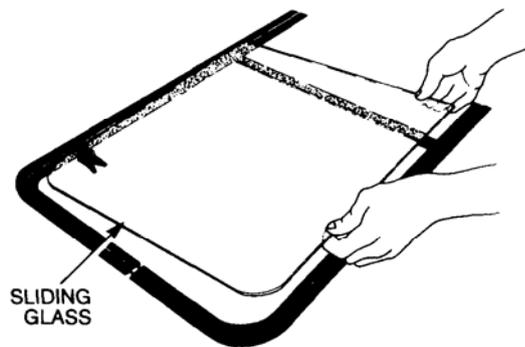

**Figure 36 Window Frame Halves Removal**
- Remove the recessed screws securing the upper and lower halves of the window frame together (refer Figure 36).
- ff. Tighten the screws securely (refer Figure 36).